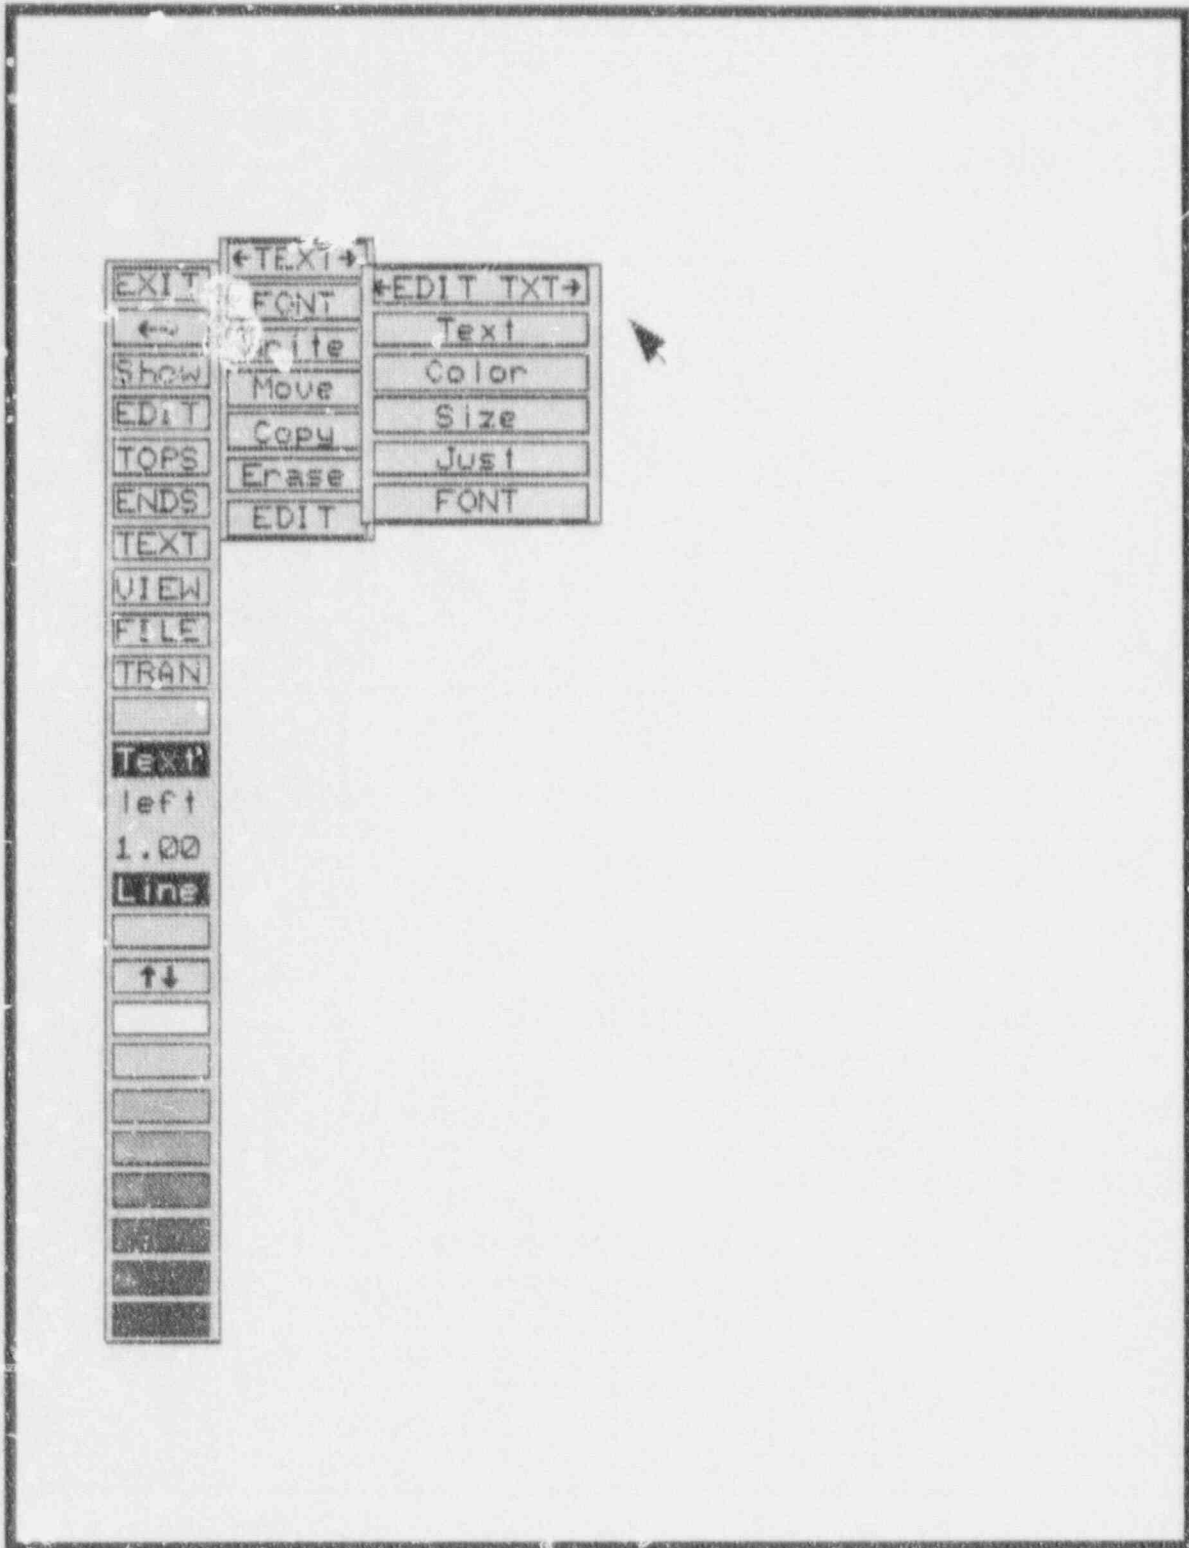

Figure 127. EDIT pop up menu.
7.2.7.7 EDIT. This option allows you to edit text and set various attributes of the text including color, size, font, and justification. When you invoke this option, an additional pop-up menu will be displayed (Figure 127).